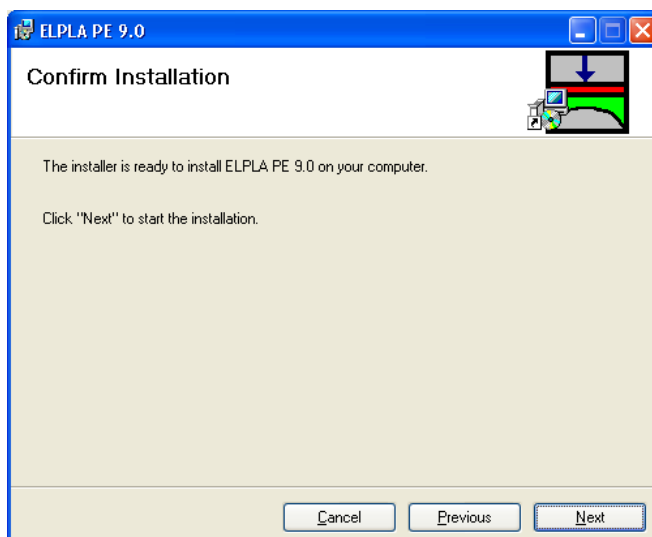

Figure 3 "Confirm Installation" form
After selecting the installation folder, *ELPLA* Installer program will be ready to install *ELPLA* software on your computer, Figure 3.
- Click "Next" button in the form of Figure 3 to start the installation